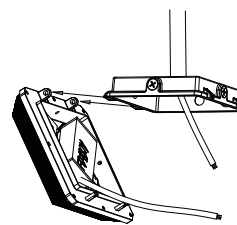

FIGURE 1-4
4. Insert the mounting hole of radiator horizontally to the shaft of driver cover (Figure 1-4)